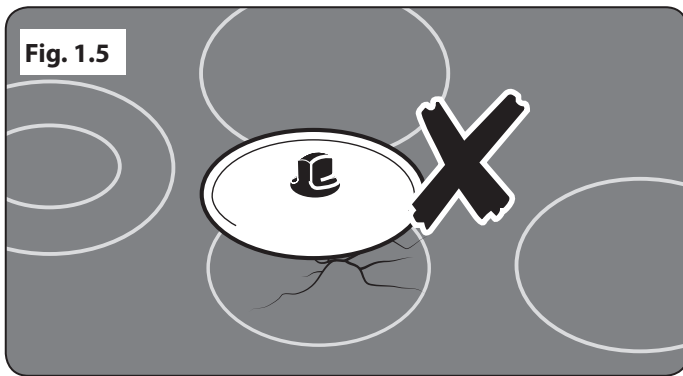

Fig. 1.5
- Take care **NOT TO PLACE HOT LIDS** onto the Hob surface (**Fig. 1.5**). Lids that have been used to cover a hot pan can “stick” or create a “vacuum” effect to the Glass Hob. Should this occur, **DO NOT** attempt to lift the lid off the glass surface, this may damage the glass. Instead slide the lid to the edge of the hob surface and remove, taking care not to scratch the hob surface. Alternatively wait until the lid has cooled to room temperature, the vacuum has been released, then remove the lid by lifting it from the hob surface.